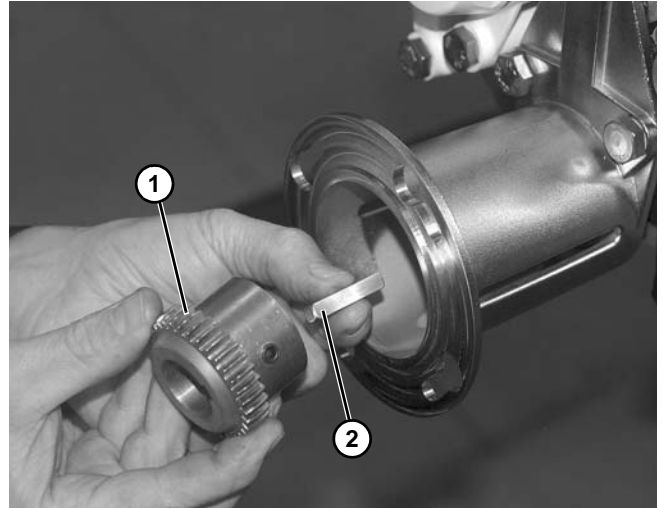

Figure 179
3. Remove drive gear (**Figure 179, item 1**) and key (**Figure 179, item 2**) from the center drive shaft.